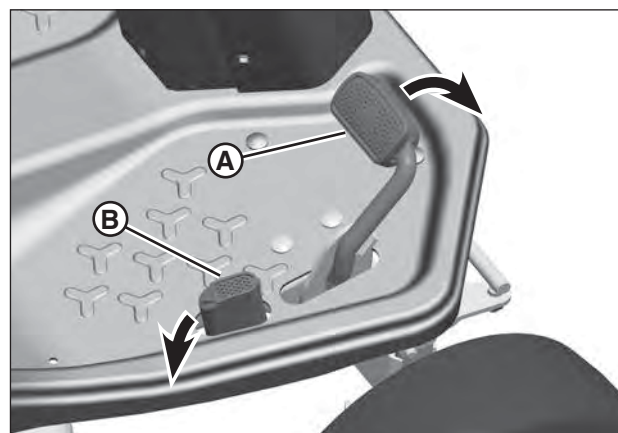

Figure 11: Ground speed pedals (hydro drive models)
- Slowly depress the forward ground speed pedal (A, Figure 11) to begin forward motion. Increase ground speed by further depressing the pedal.
- Slowly depress the reverse ground speed pedal (B, Figure 11) to begin reverse motion. Increase ground speed by further depressing the pedal.